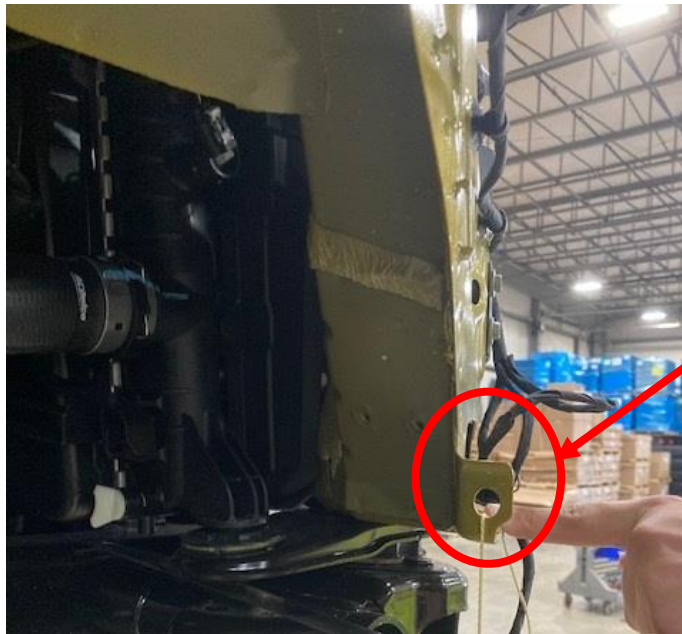

Figure 1 – AEV Gap Fillers
- a. Pull through each individual rubber tab through upper fascia's tract until you feel click of clip fully engaged – Fig. 1